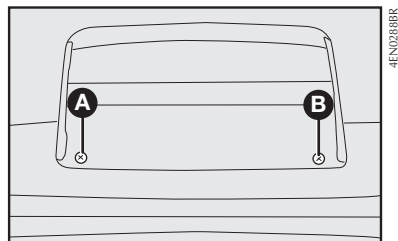

fig. 20
1) com a tampa traseira aberta, retirar os parafusos **A-fig. 20** e remover o brake-light;